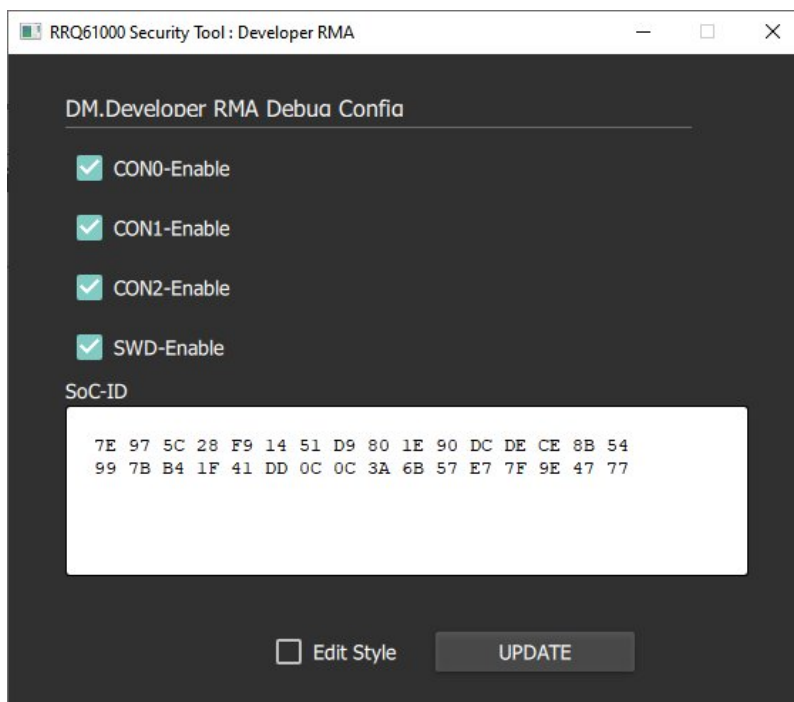

Figure 46. DM RMA SoC-ID entry
3. In the **Developer RMA** window (Figure 46), enter the SoC-ID, and then click **Update**.